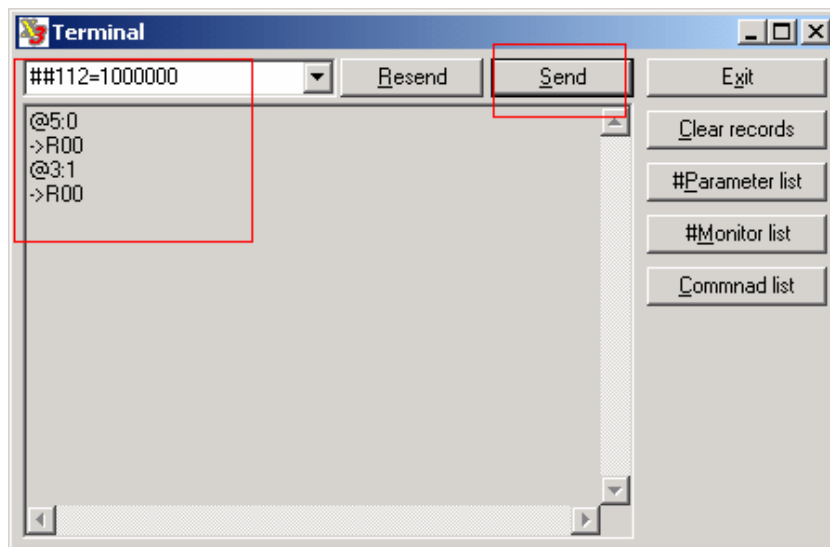

Figure 22: Homing
25. Given an example below. The values that user need to increase is “#15”. In this case the values should reduce to lift up the line. **E.g. type “##15=20” in the terminal window and enter. The same way as shown in Figure 22.**